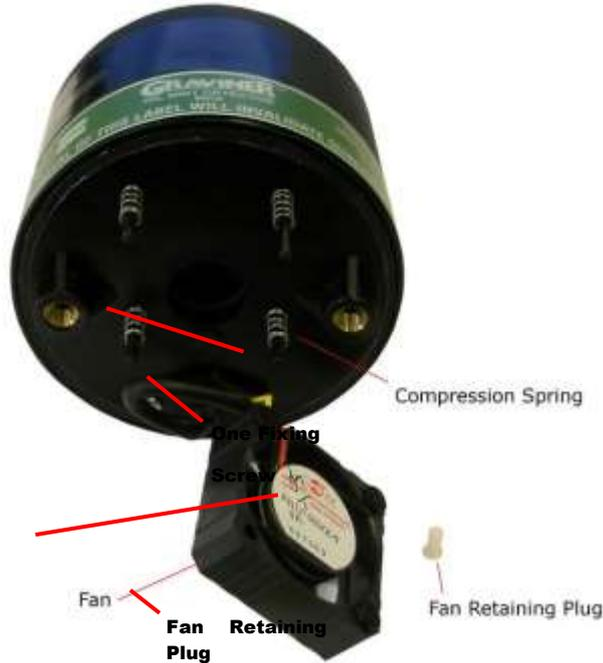

Figure 146
- Using the Pulling Tool, Figure 145, remove the Fan Retaining Plug by capturing the shoulder and pulling. Carefully remove the Fan from its mountings, Figure 146.